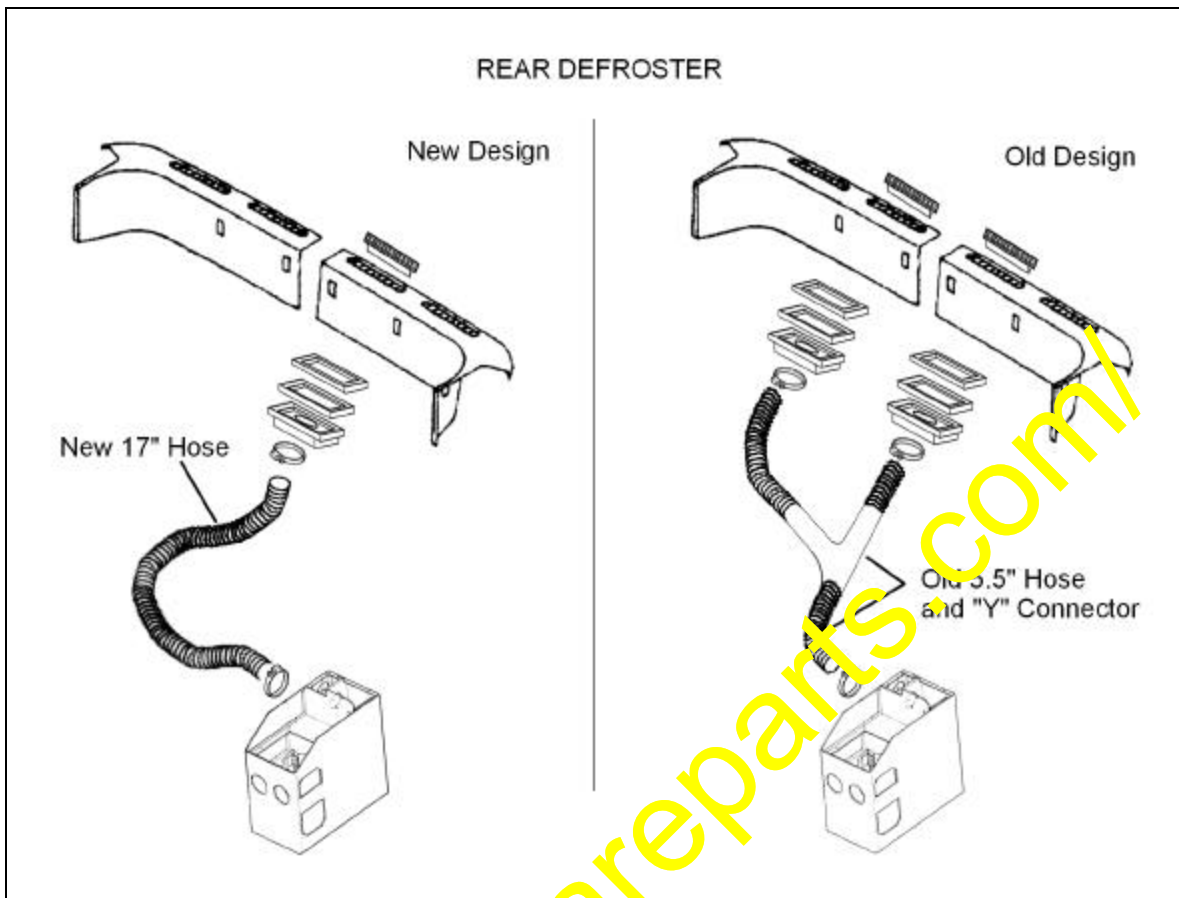

Figure 1
3. As shown in Figure 1, remove old design components including 5.5 inch hose, "Y" duct with hose and louver assemblies.
4. As shown in Figure 1, install new design components.